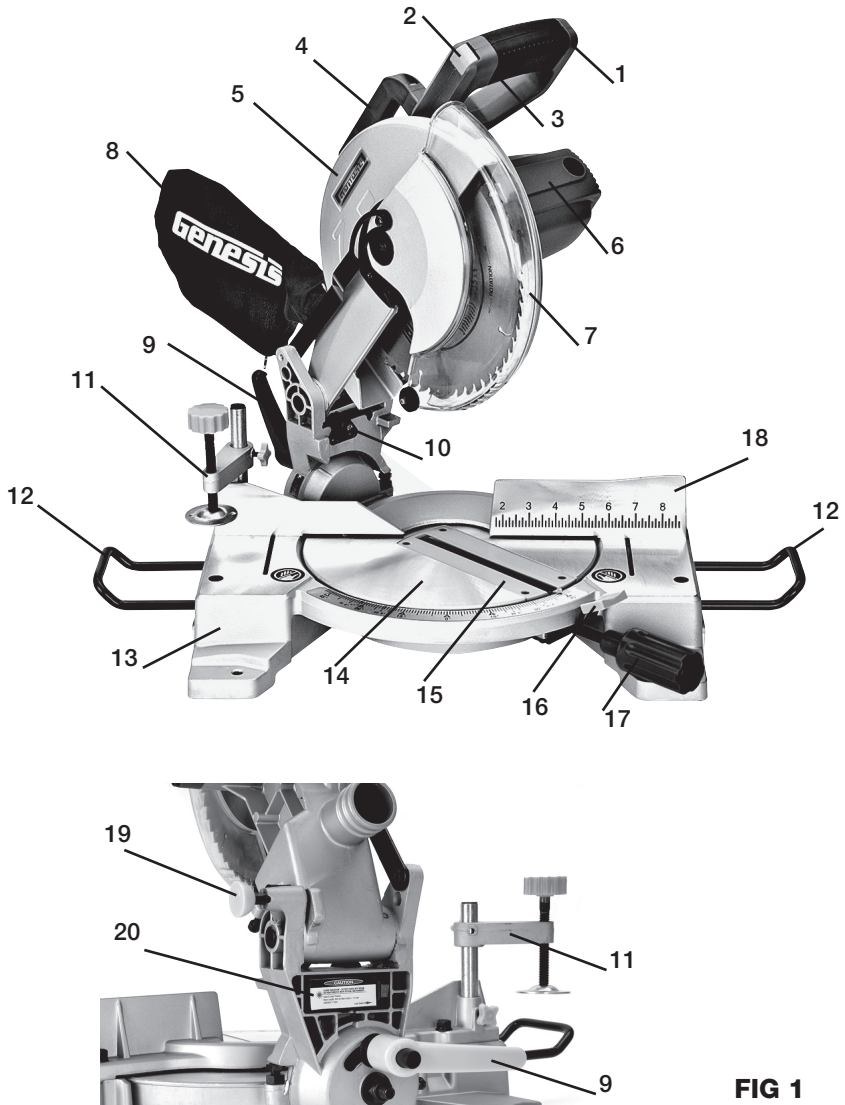

FIG 1
3. Using the carrying handle (4-Fig1) carefully lift the saw from the carton and place it on a level work surface.
4. The saw has been shipped with the saw head locked in the down position. To release the saw head push down on the top of the saw head, pull on the lock knob (19-Fig1), rotate it a quarter turn and let go, slowly raise the saw head.